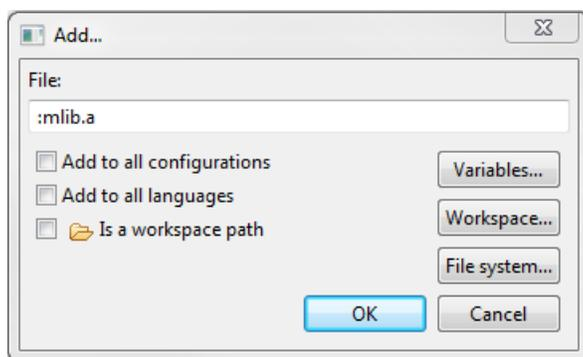

**Figure 1-21. Library path inclusion**
- Look for the RTCESL\_LOC variable by clicking Variables..., and then finish the path in the box by adding the following (see Figure 1-21): `${RTCESL_LOC}\MLIB`.